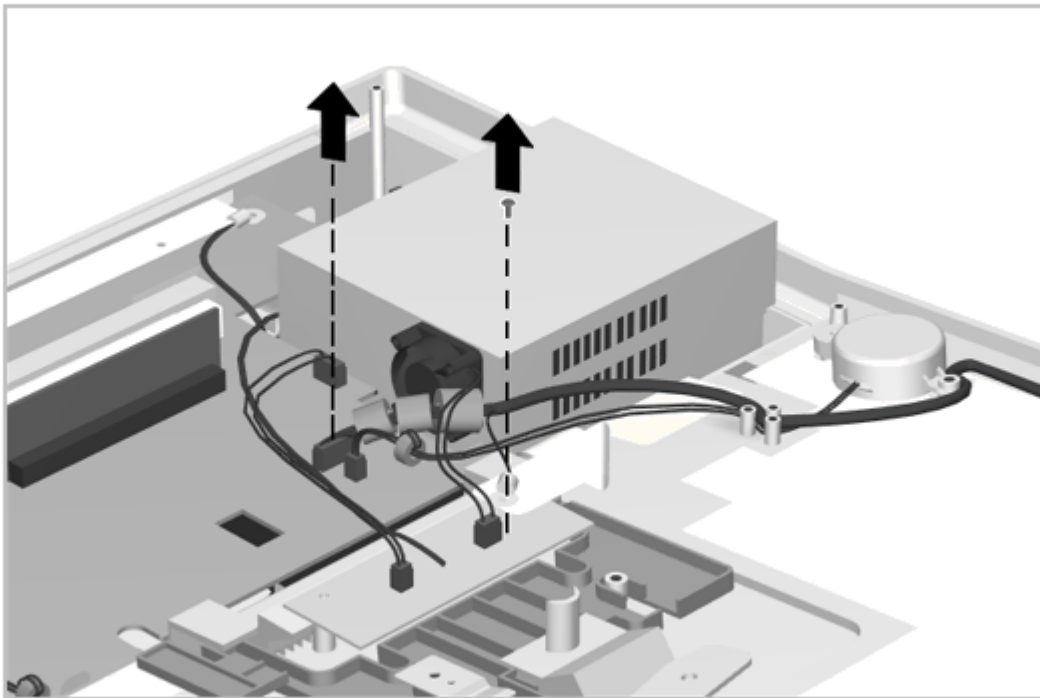

Figure 6-26. Disconnecting the IrDA Board
3. Disconnect the IrDA board cable and ground wire from the main board (Figure 6-26).